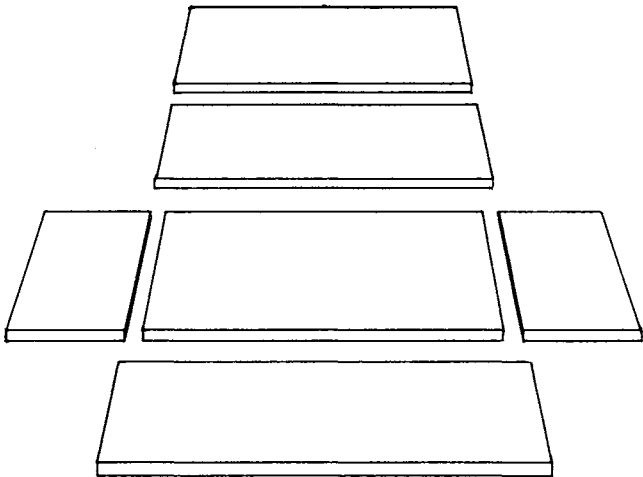

Figure 2.
2. Lay out pieces as shown in Figure 2.